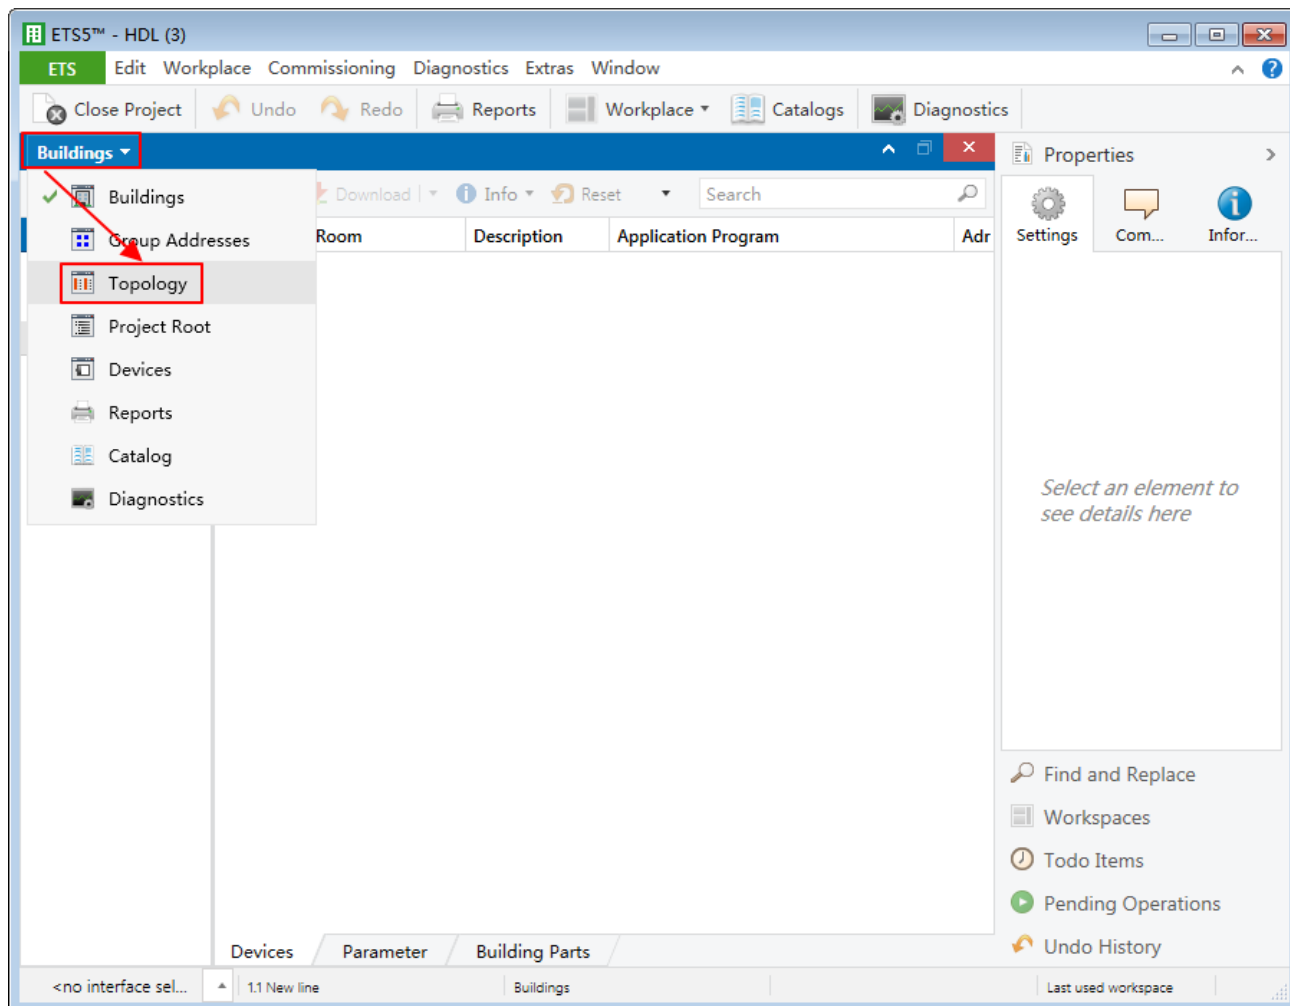

Figure 1-3 Add devices to projects
- ① After creating a project, the project page will show up by default. Click “Buildings” and select “Topology”, as shown in Figure 1-3.